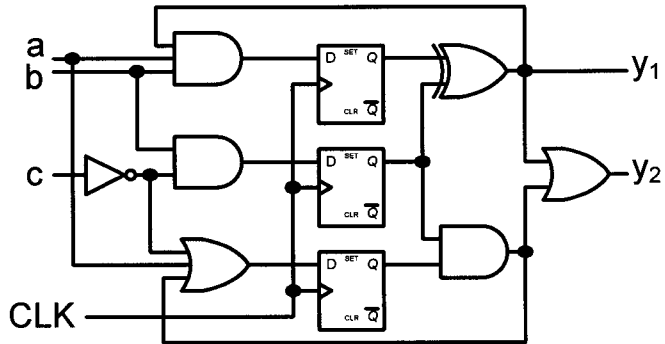

Figure 2
2) In the figure 2, find solution(s) of each question. (8 marks)